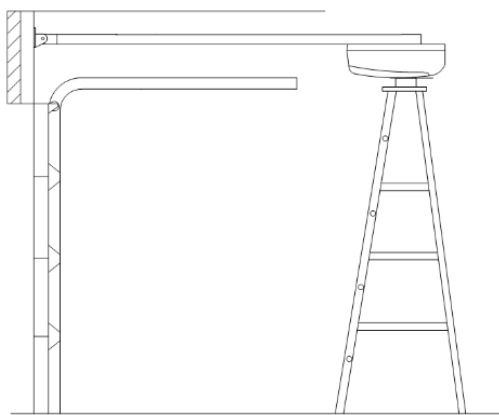

Fig.3.
9. Raise the rear part of the rail to align with the bracket. Additionally, the rail should be parallel to the floor (Fig. 3). If the automation is being installed directly on the ceiling, please proceed to step 13.